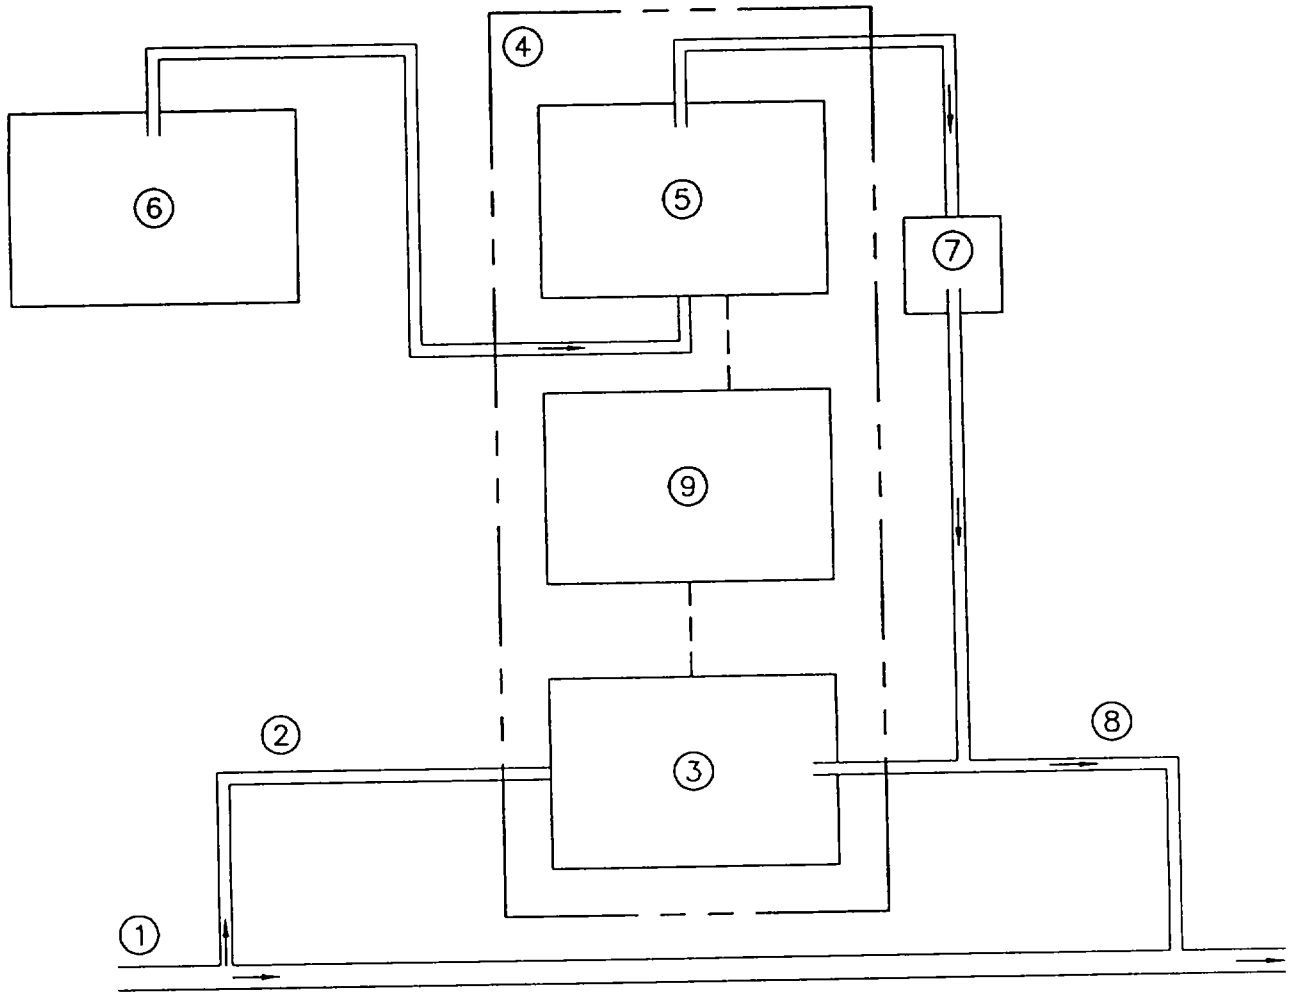

Figure 1-3. Hypochlorination Unit Flow Diagram
- a. Flow Path. The hypochlorination (see Figure 1-3) unit provides for the addition of hypochlorite solution to unchlorinated water using hydraulic pressure from the untreated water.
- (1) System inlet water diverts from the water manifold (1) through the inlet valve pipe assembly (2) to the lower main case assembly (3) of the ratio-feeder (4).
- (2) The lower main case assembly (3) operates as a water motor.
- (3) The inlet of the pumper assembly (5) is connected to the reservoir assembly (6).
- (4) The outlet of the pumper assembly (5) is connected to the antisiphon valve (7) on the outlet pipe assembly (8).
- (5) The outlet pipe assembly (8) connects the outlet of the lower main case assembly (3) to the outlet of the manifold assembly.
- (6) The water motor assembly of the lower main case assembly (3) activates the upper main case assembly (9) and pumper assembly (5) to inject hypochlorite solution. The hypochlorite solution is pumped from the reservoir (6) through the pumper assembly (5) and injected by the antisiphon valve (7) into the outlet pipe assembly (8).